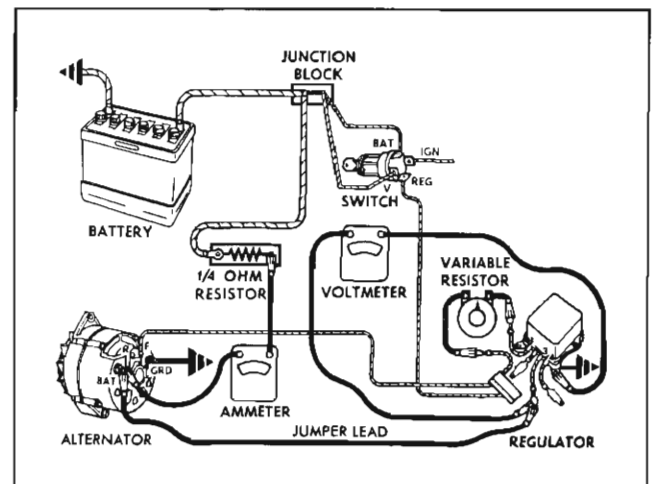

Fig. 11-30 Checking Voltage Setting
1. Connect an ammeter and a  $\frac{1}{4}$  ohm resistor with a rating of 25 watts or more in series in the circuit at the "BAT" terminal on the alternator (Fig. 11-30). In case the battery is discharged, the  $\frac{1}{4}$  ohm resistor will limit the alternator output to 10 amperes or less which is required when checking and adjusting the voltage setting.